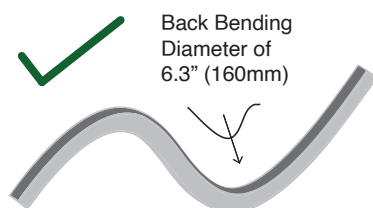

Fig. 1
- 1) Do not (top and back) bend past a diameter of 160mm/6.3" to avoid damage to internal components of the product (Fig. 1).